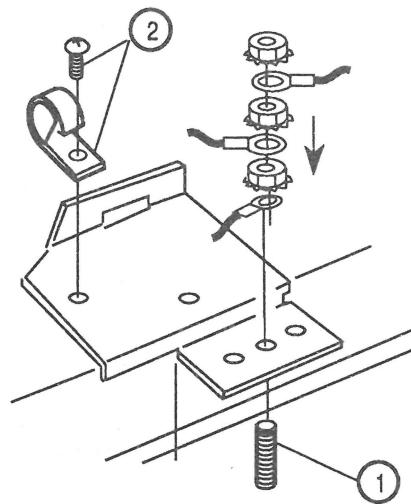

FIGURE 20
- c) Place the metal bleeder resistor bracket so that the second hole in the row of three holes fits over the ground stud (Figure 20, #1).
- e) Replace the plastic clip (Figure 20, #2).